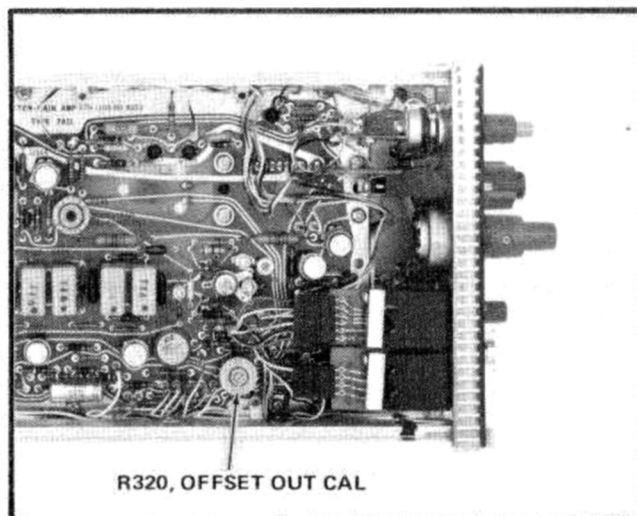

Fig. 5-8. Adjustment location, step 7.
f. CHECK—OFFSET OUT accuracy. Using the Differential Voltmeter and the Cable Assembly (item 18), check the voltage at the OFFSET OUT jack. It should be equal to the following: $-500\text{ mV } \pm 5.5\text{ mV}$ with Amplitude Calibrator And Comparator; $-400\text{ mV } \pm 10.5\text{ mV}$ with Oscilloscope Calibrator.
g. (Calibration Procedure only.) ADJUST—OFFSET OUT CAL - R320 (Fig. 5-8) as necessary to obtain 500 mV OFFSET OUT voltage with Amplitude Calibrator And Comparator, or 400 mV with Oscilloscope Calibrator. Note that R320 interacts on the trace position and the front-panel OFFSET controls will have to be readjusted to keep the trace at graticule center.